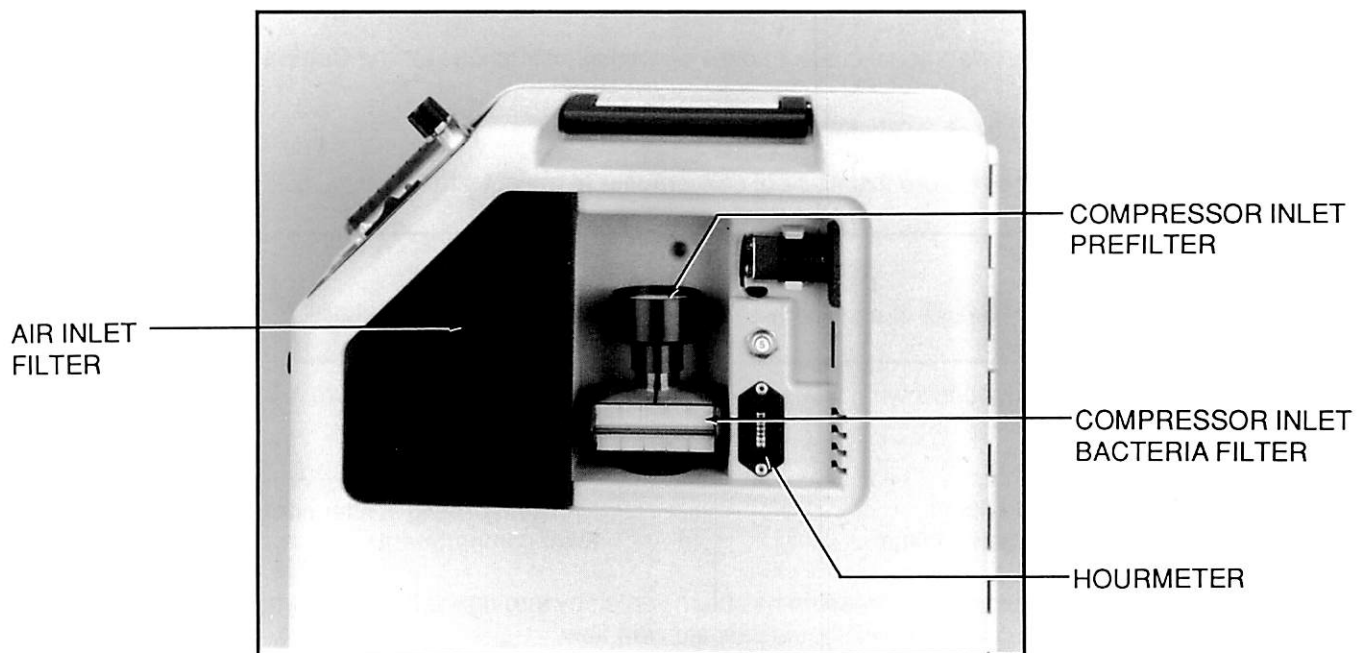

Figure 1-3: Side Panel View
- a. Ensure that the following filters are clean and securely in place. (Figure 1-3)
- g. Note hour meter reading. (Figure 1-3)
- a. Ensure that air inlet filter (Figure 1-3) is clean.